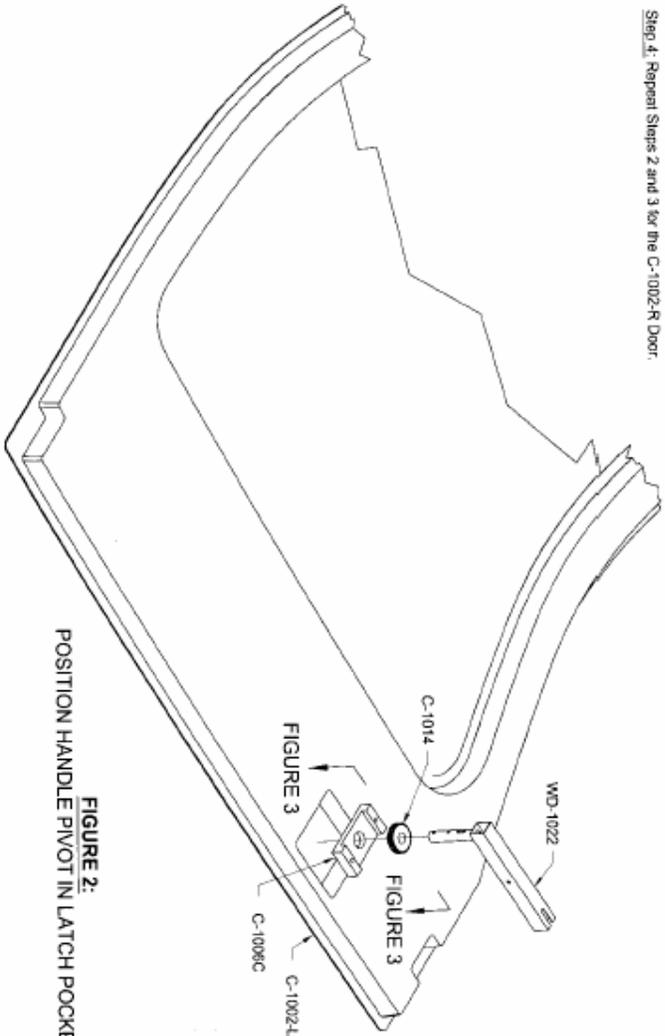

FIGURE 2:
Step 3: Insert the WD-1022 Door Handle Assembly through the C-1014 Handle Spur Gear and through the hole just drilled through the C-1002-L Door. See Figure 2. This will hold the C-1006C Handle Pivot centered on the hole in the door. Re-check that the edges of the handle pivot are aligned with the edges of the latch pocket and match-drill #12 through the door using the hole in the handle pivot as drill guides. See Figure 3.